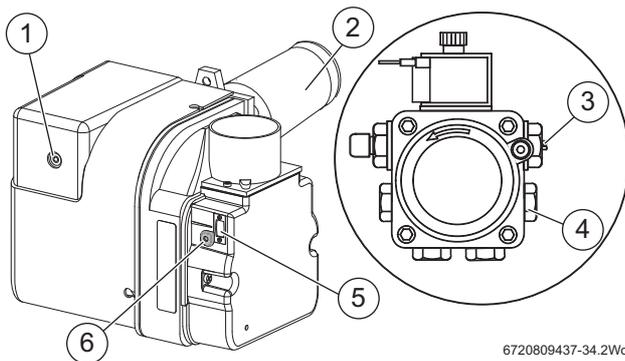

Fig. 64
- ▶ Check for after-spurting from the nozzle, indicated by oil saturation on the combustion head [2] figure 64.
- ▶ Remove the combustion head [2] figure 64 and electrodes, hold the burner vertically, unscrew the nozzle and fill the nozzle holder with kerosene.
- ▶ Refit nozzle, electrodes, combustion head [2] figure 64 and burner.
- ▶ Check the CO2 levels and adjust the air shutter [6] figure 64 setting according to the table opposite.
If the flue gas temperature is too high and the baffles are correctly fitted, then reduce the oil pump pressure [3] fig. 64, 5-10 p.s.i. to compensate for nozzle variations. If the pump pressure has been changed, the CO2 levels must be rechecked and air shutter adjusted if necessary.
- ▶ Refit the blanking plug [4] figure 64.
- ▶ Recheck the CO2 levels and if required, adjust the air shutter setting [6] figure 64 to obtain the correct CO2 level.